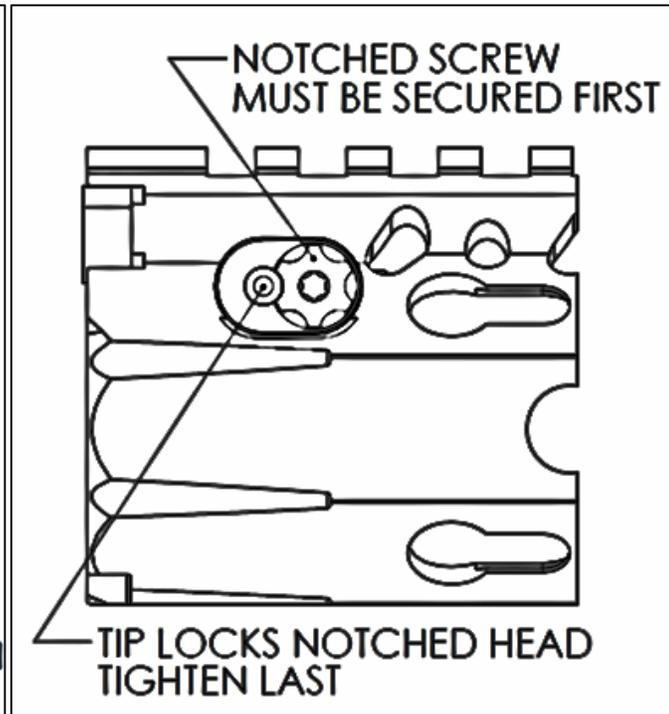

Figure 4.
- Continue to tighten the notched cross bolt to 30-40 in-lbs. so that the notch in the head aligns with the adjacent screw hole as shown in **Figure 4**.
- Tighten the locking cross bolt (ensure it lines up with a notch in the notched cross bolt) to 30-40 in-lbs. **NEVER over tighten. Excessive tightening can damage the notched cross bolt. Note:** The tip of the locking cross bolt will lock the notched cross bolt. (See **Figure 4**.)